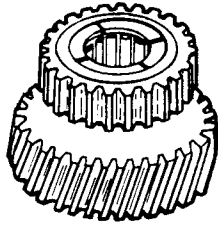

Fig H2.11
- (2) Refer to Fig H2.11. Form an assembly with the gear, bearings and thrust washers, taking into account that these have oil grooves which must face outwards. All these parts are held together by grease.